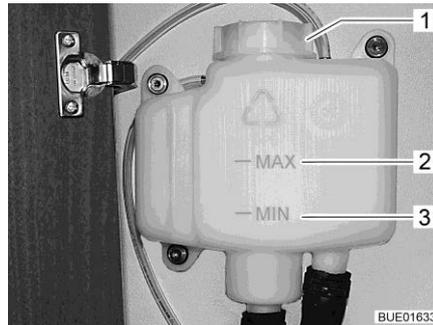

Fig. 283 Compensator reservoir without panel
- Check if the fluid level is between the marks "MIN" (Fig. 283,3) and "MAX" (Fig. 283,2) on the compensator reservoir (Fig. 283).
- Open the rotary lid (Fig. 283,1) on the compensator reservoir.